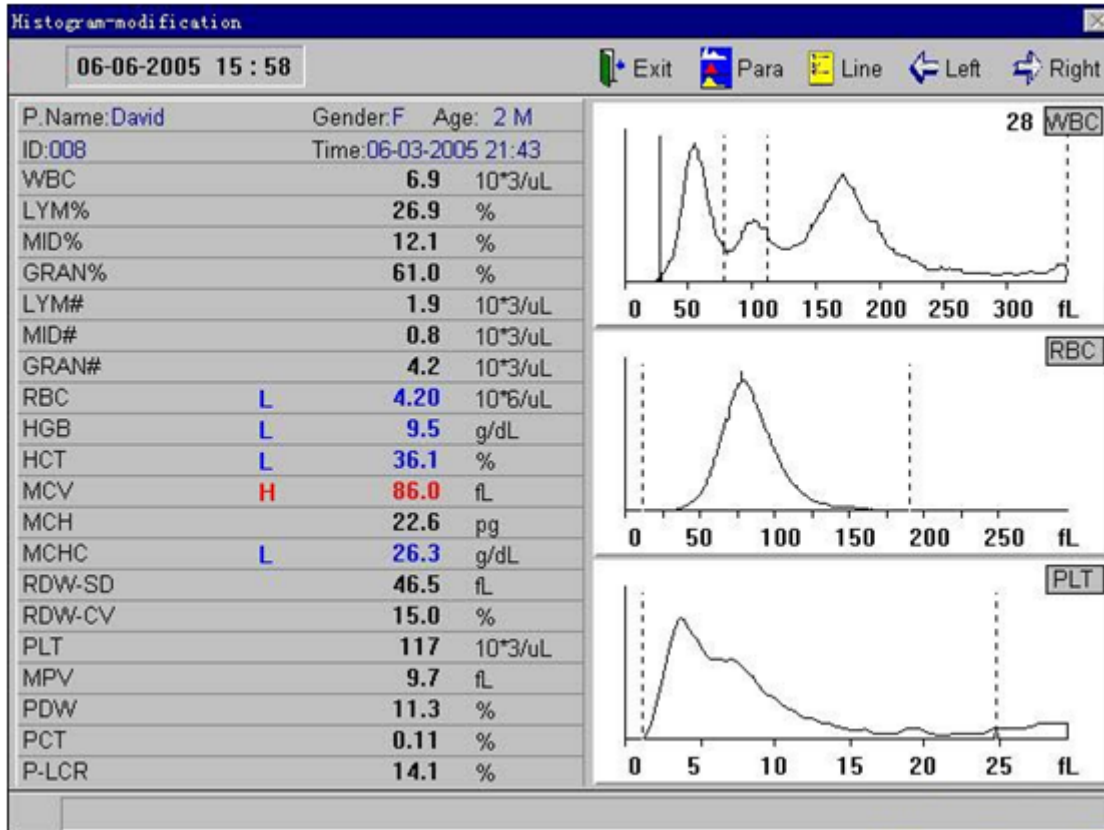

Figure3-2
- a) In the blood cell analyzer window, select **“Histogram”** in menu. The instrument accesses histogram adjustment window, as shown in figure 3-2. Press **“Para”** button to adjust the histogram.